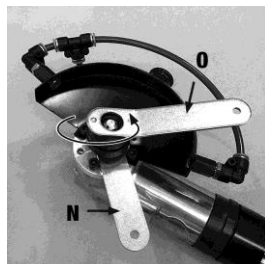

Fig. 1
1. Mount the side handle (F) to the wet air cutter (A). Make sure that the side handle is set tight and secure.
2. Remove the upper flange (J) from the work spindle with use of the pin wrench (O) while holding the open end wrench (N) on the flats of the work spindle (Fig. 1).